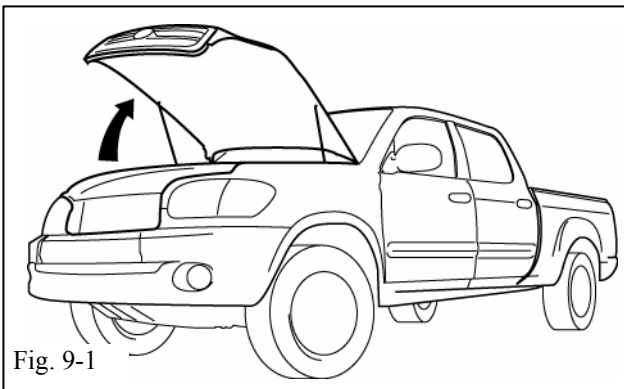

Fig. 9-1
- (a) Open the Hood. (Fig. 9-1)